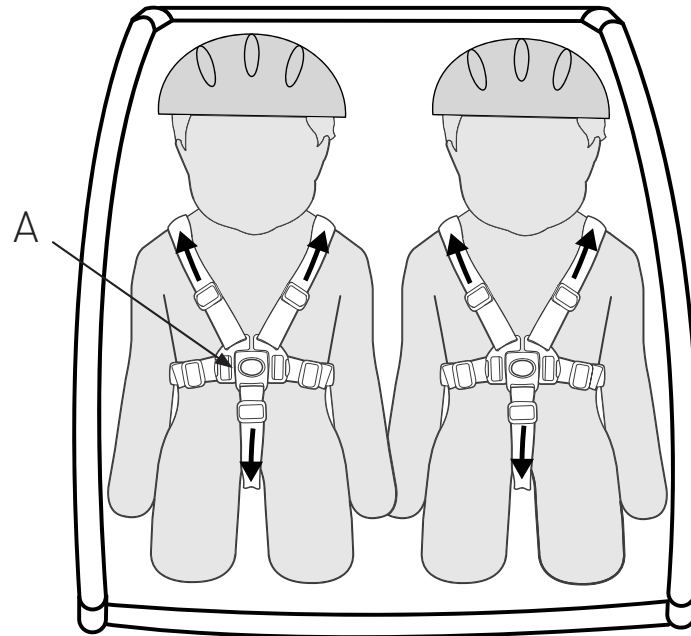

Figure 21
1. Before loading or unloading your children, set the parking brake. After loading, secure and adjust the harnesses. Snap shoulder straps & waist straps into 5-point harness buckle and adjust straps so they are secure (Figure 21). Fasten and adjust lap belt(s) to fit securely.